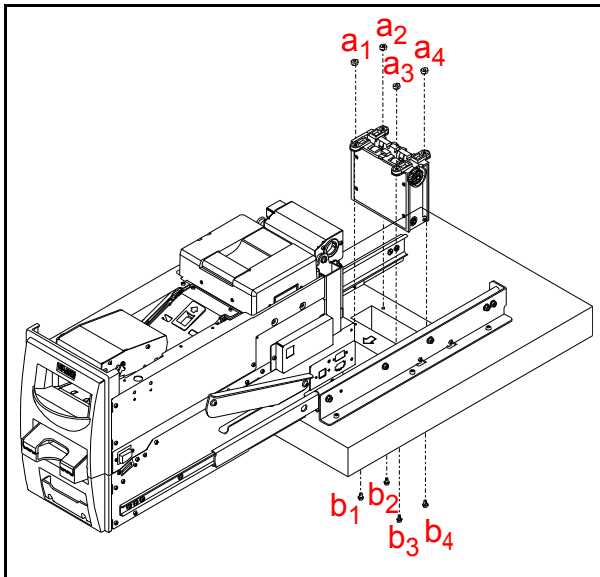

Figure 10 Bottom Side Mounting
When the bottom side mounting is preferred, insert the four (4) M4 Screws (Figure 10 **b₁** to **b₄**), of the proper length, from the bottom side of the Cash Box Ceiling securing the Cash Box Transport with Nuts (Figure 10 **a₁** to **a₄**) to the top side.